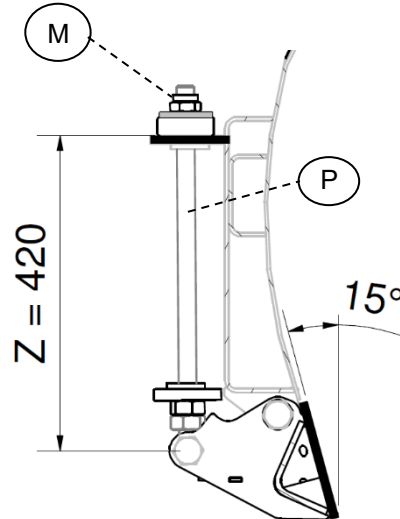

Figure 19
The default cutting angle is 15° ($Z = 420$ mm) – see Figure 19. In general, cutting angles only need to be adjusted after the springs have been replaced – see section 1.12.
Dimension Z – see Figure 19 – can be used as a control measure. By tightening the nut (M) in the upper part of the spring rod (P), the cutting angle is smaller – for cutting angle 0° , $Z = 390$ mm. Loosening the nut (M) makes the angle larger.